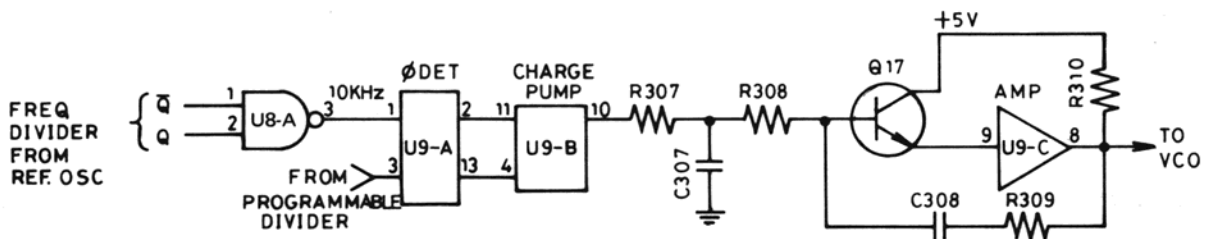

Figure 3-7 Phase Detector Circuit
**3.3.6 Phase Detector (Figure 3-7)**